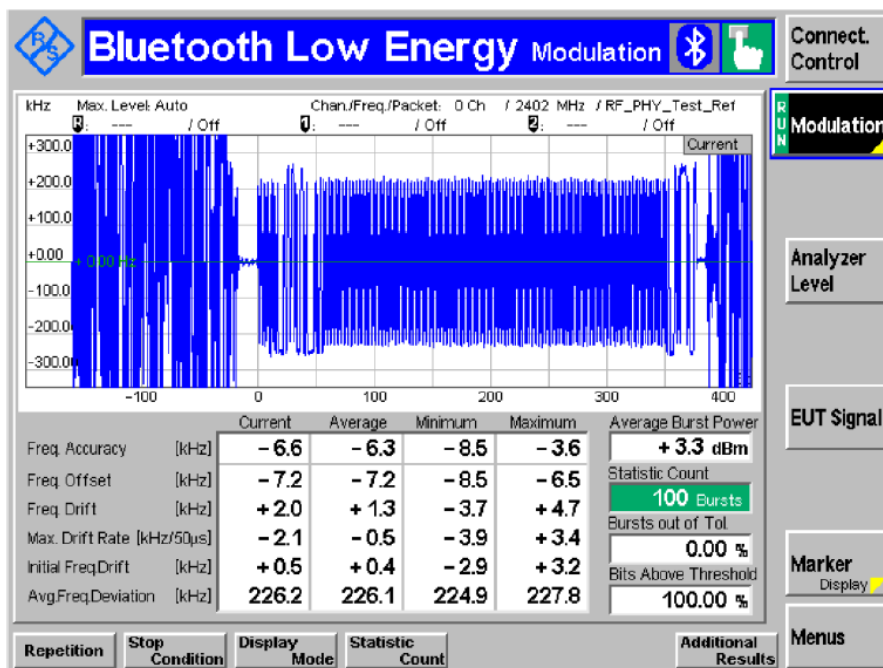

Figure 7. Starting the TX modulation test—mandatory results view
- On the CBT, select “Connect. Control” in the upper right corner (Figure 7). A new window appears. In this window, you can enable the test mode and modify various parameters to suit various test configurations. Make sure the “Connection” tab is selected (in the bottom left corner of the display).